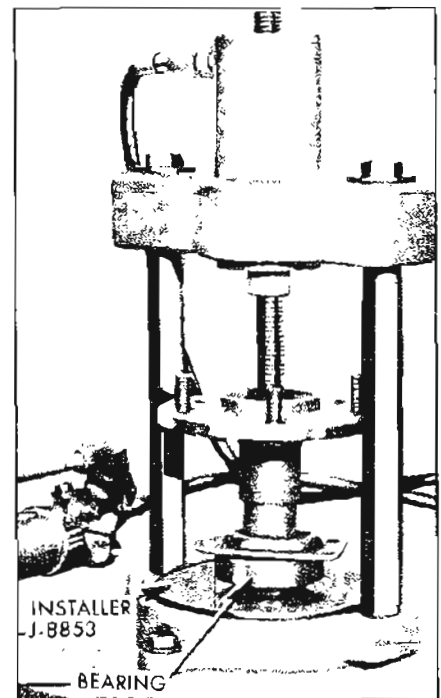

Figure 6-8—Installing Axle Shaft Bearing
3. Press new axle shaft bearing against shoulder on axle shaft using Installer J-8853 with Holder J-6407. See Figure 6-8. **CAUTION:** Retainer plate which retains bearing in housing must be on axle shaft before bearing